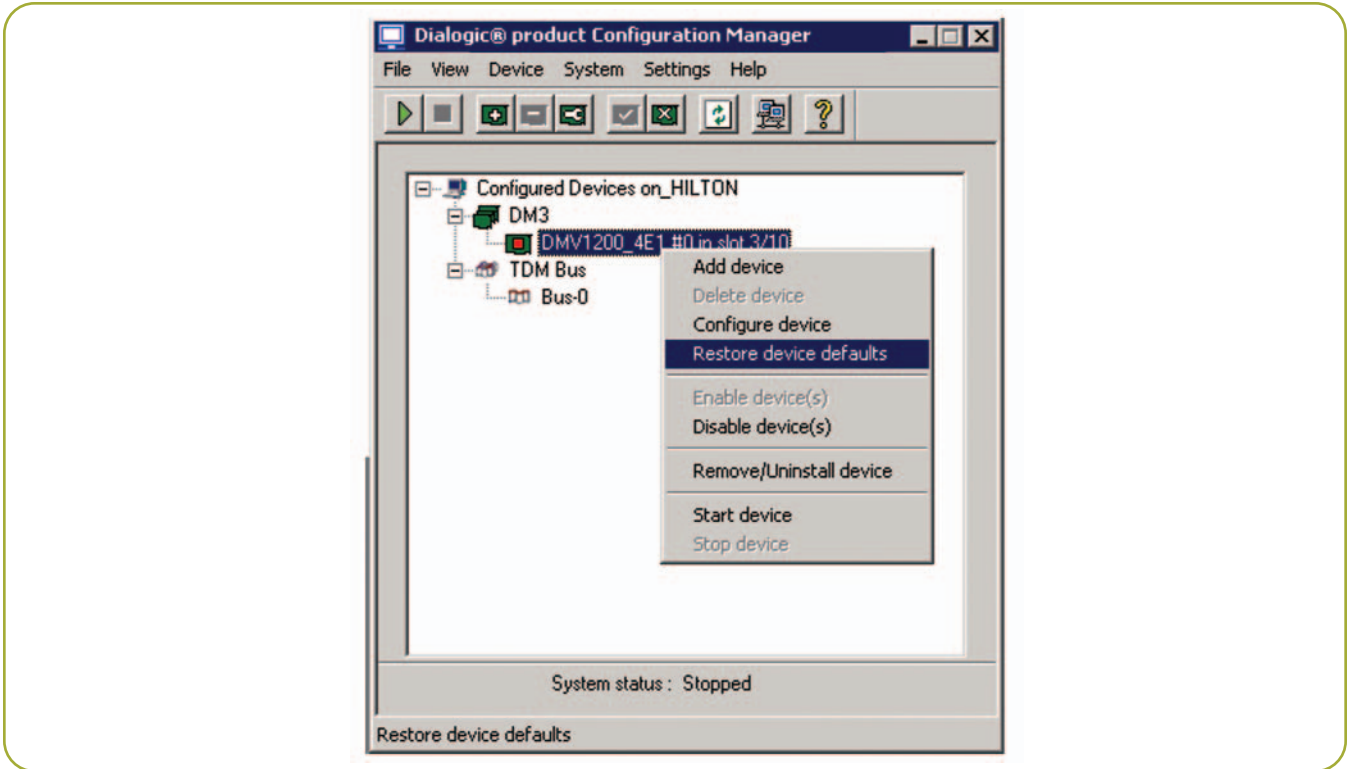

Figure 2. Forcing a Hardware Detection
3. Right click on the DM3 device and select “Restore Device Default” to force a re-detection of your Dialogic® hardware, as shown in Figure 2.